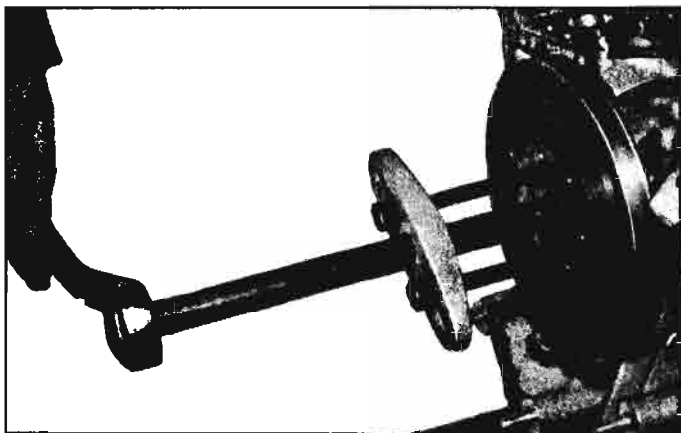

Fig. 6A-46—Removing Crankshaft Pulley Tool J-8105
43. Loosen crankcase bolts (located on side of crankcase), 8 long and 1 short bolt shown in Figure 6A-42. Engines provide just one small bolt for mounting, the oil pump suction pipe clamp (fig. 6A-110). Place crankcase on a block of wood at an angle of about 15° so crankshaft and camshaft will not fall out when crankcase half is removed) as shown in Figure 6A-47.